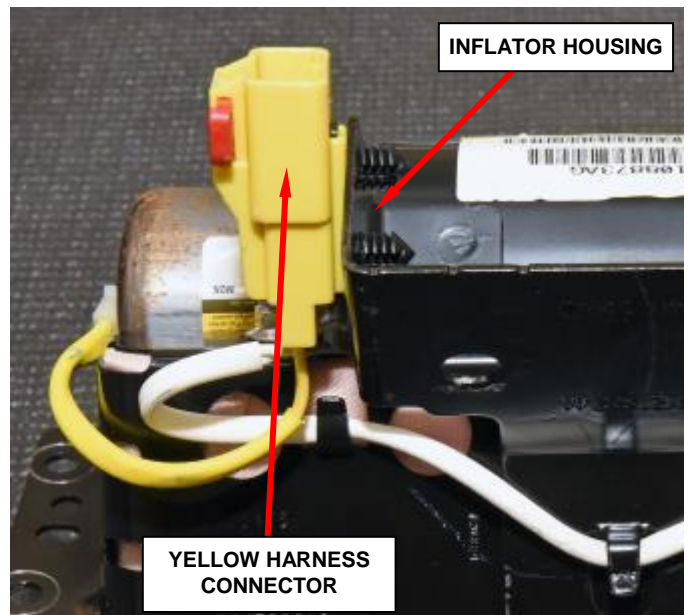

Figure 70 – Wire Harness Connector
c. Release the yellow wire harness connector from the inflator housing bracket (Figure 70).